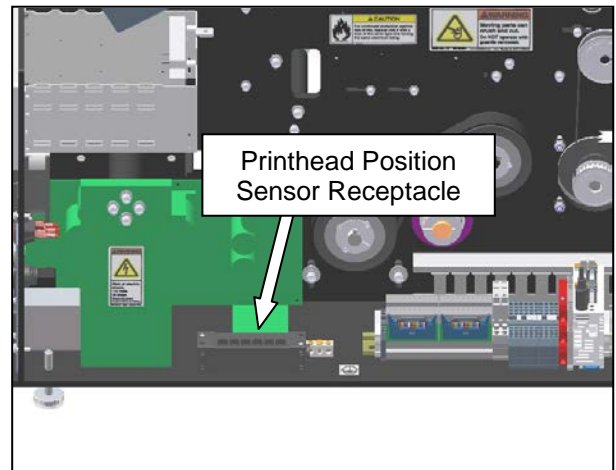

Figure 3-257. Sensor Connector Block
3. Follow the sensor cable back through the machine, cutting any cable ties that secure the cable to the bundle. Once the cable is free, unplug the connector from the Printhead position sensor receptacle on the base of the machine (Figure 3-257).